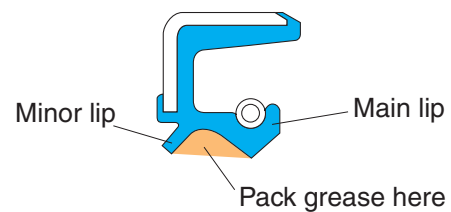

Fig. 1.7.2 Prelubrication for seals with minor lip
- 2) Apply suitable, clean lubricant to the seal lip for initial lubrication. For oil seals with a minor lip, pack clean grease between main lip and minor lip (Fig. 1.7.2).